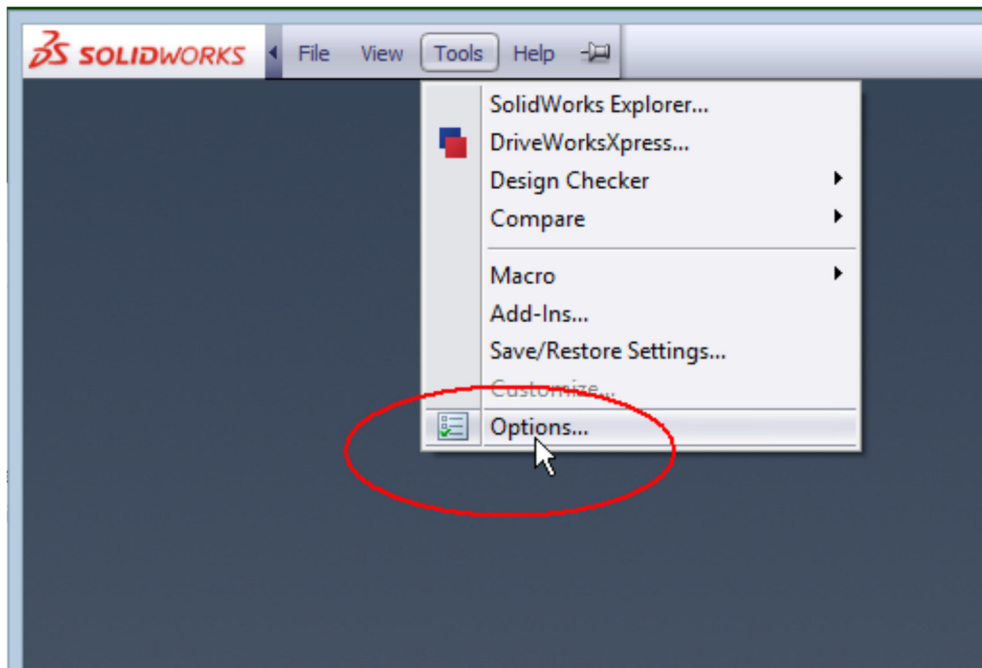

Figure 1.
- b) Click the menu item “Tools->Options” (Figure 1.)